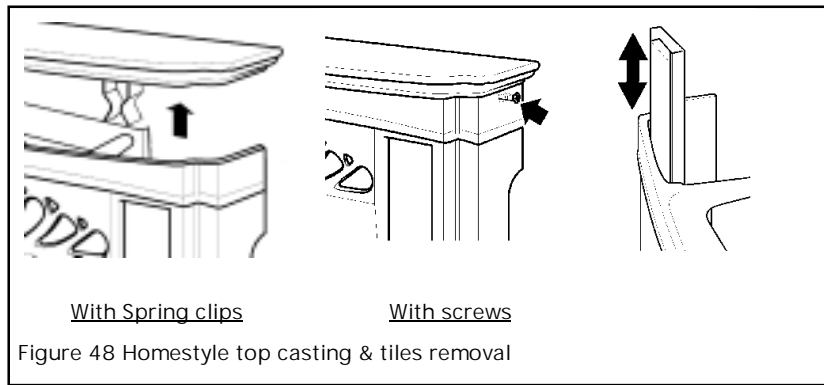

Figure 48 Homestyle top casting & tiles removal
**13.5.1** The top casting will have to be removed to insert the tile set. Some appliances have the top casting secured to the sides by screws. Other appliances have the top secured by spring clips. If the top is screwed to the sides, unscrew the two screws at the top of the side castings until they are loose enough to allow the top to be lifted off. There is no screw thread in the top casting, only in the side castings (See figure 48). If no screws are visible, the top can be removed by pulling it firmly upwards to release the spring clips (See figure 48).
**13.5.2** Remove the complete tile cassette by sliding the cassette channel up and out of the front casting. See figure 48. Alternatively, remove the tiles individually by sliding them up out of the cassette channel. This second method will have to be employed if a shelf above the fire is too low to enable the channel to be slid clear